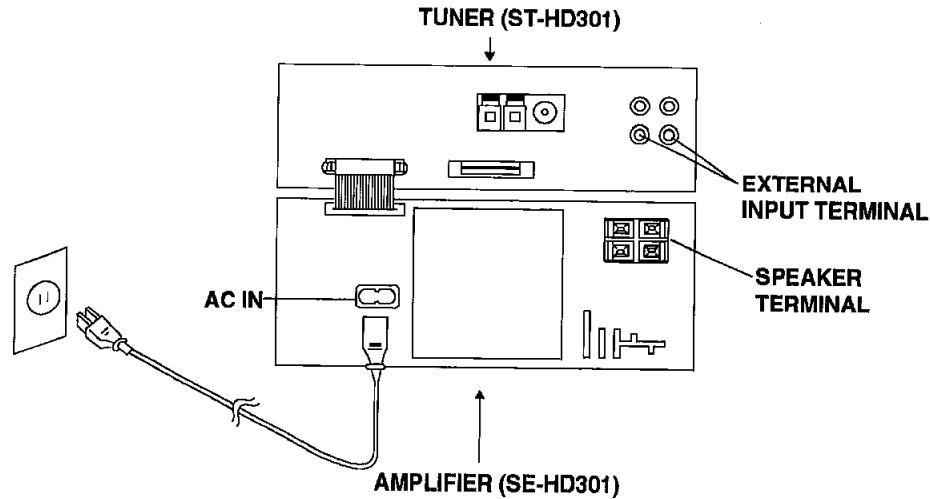

Fig. 1
1. Connect with the Tuner (ST-HD301). (As shown in Fig. 1)
2. Connect the AC mains lead to Amplifier (SE-HD301). (As shown in Fig. 1)
3. Connect the speakers to speaker terminal. (As shown in Fig. 1)